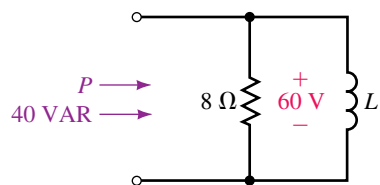

FIGURE 17-35
8. For the circuit of Figure 17-35, $f = 10$ Hz. Find